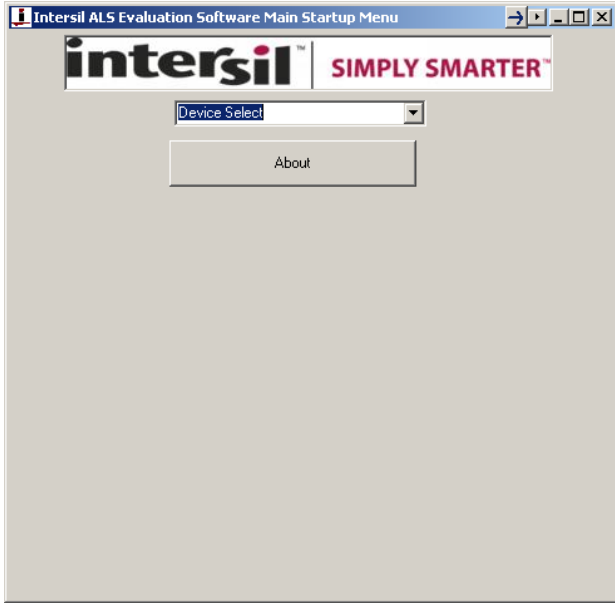

FIGURE 8. IGUI WELCOME WINDOW
- Once you have double clicked the program, the window displayed in Figure 8 should open
- Go to “Device Select” tab and select whichever Device you have connected to your computer; for this example we will use “ISL29023”, as shown in Figure 8. The “ALS/ IR Sensor Evaluation Software” window should open. This is the main window in which all demonstrations will be done for this specific Sensor.